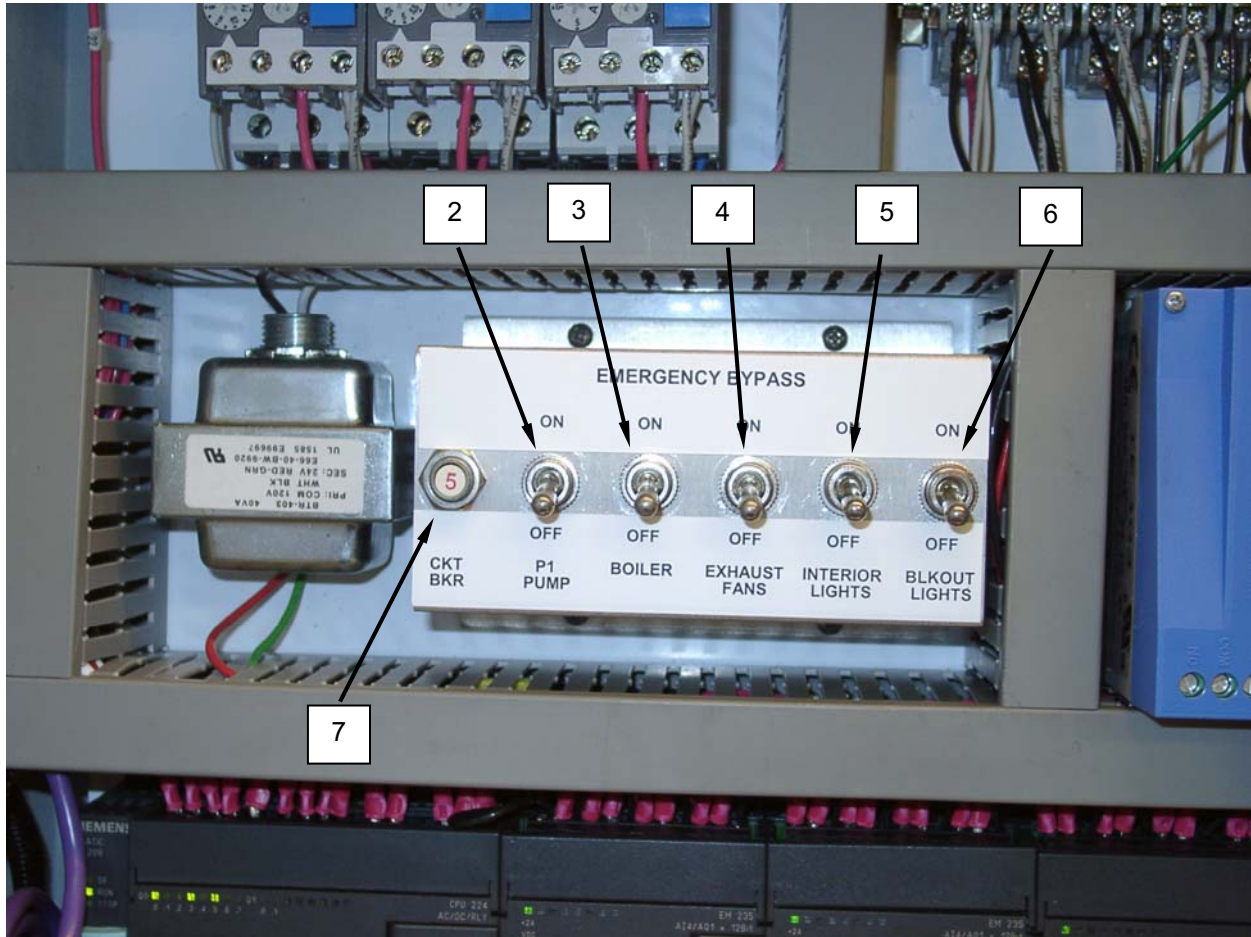

Figure 2. PLC Emergency Bypass Switches.
The P-1 pump (**Figure 2, Item 2**), the boiler (**Figure 2, Item 3**), the exhaust fans (**Figure 2, Item 4**), the interior lights (**Figure 2, Item 5**), and the blackout lights (**Figure 2, Item 6**) can be manually operated. A 5 A circuit breaker (**Figure 2, Item 7**) protects the system.
2. Operate the CBL lighting by switching the interior lights switch (**Figure 2, Item 5**) to ON.
3. If necessary, operate the exhaust fans by switching the exhaust fans switch (**Figure 2, Item 4**) to ON.
4. Turn the P-1 pump (**Figure 2, Item 2**) on.
5. Turn boiler (**Figure 2, Item 3**) on.